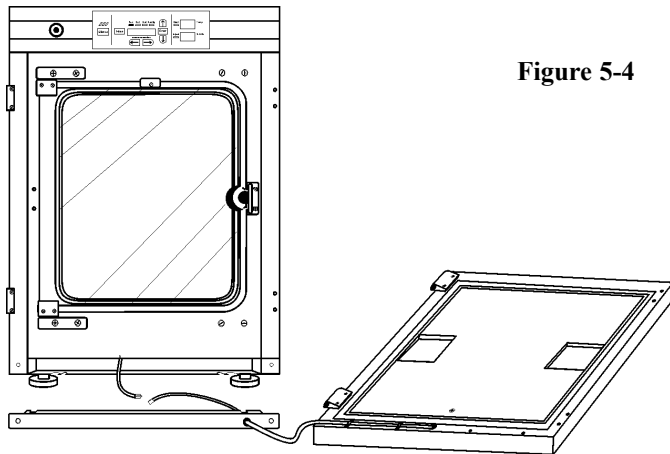

Figure 5-4
7. The incubator and door should look similar to Figure 5-4.